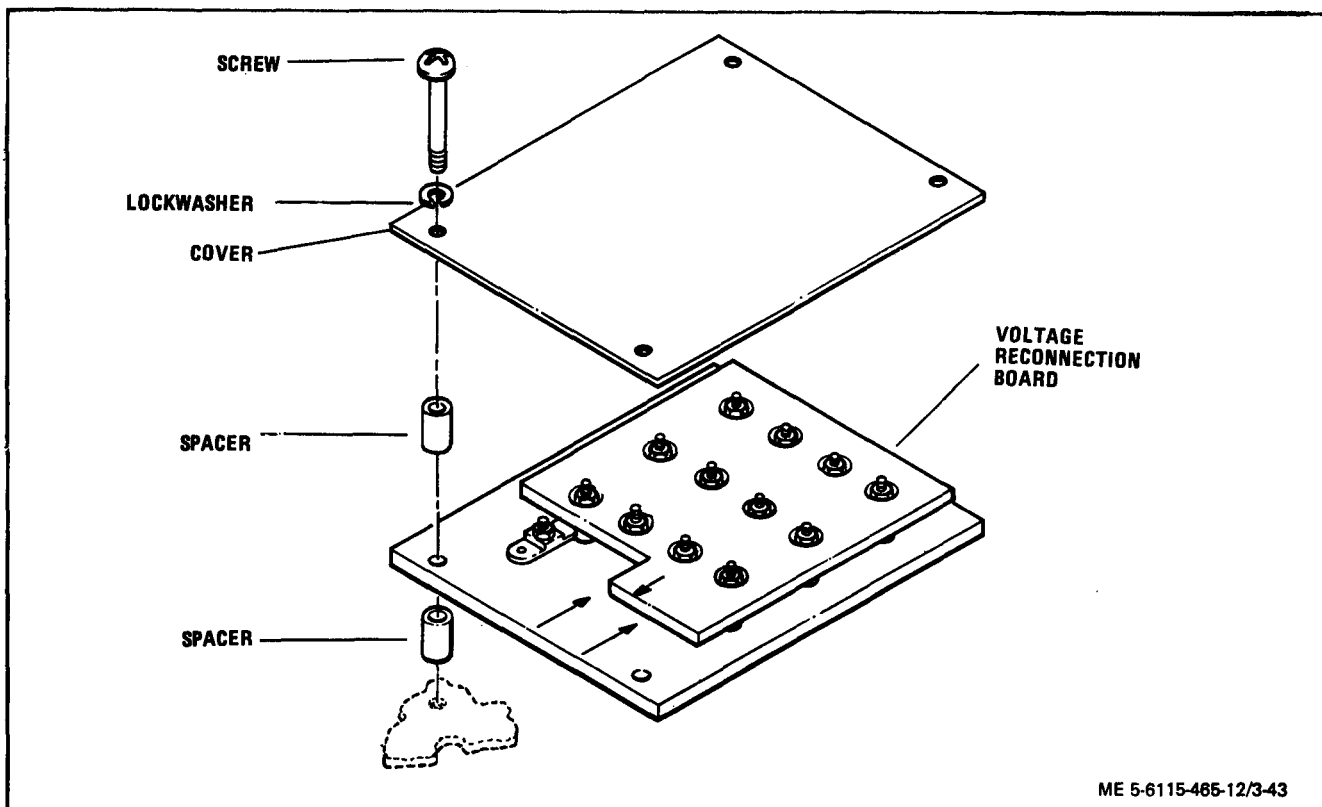

Figure 3-43. Voltage Reconnection Board, Removal and Installation
(1) Remove screws and lockwashers to remove voltage reconnection board and spacers.
(2) Tag and disconnect electrical leads to voltage reconnection board assembly (figure 3-43).
(4) Hold the terminal as shown (Detail A, figure 3-43 B) and bend both ends of the wire straight up keeping the wire in as straight a line as you can with the terminal body.
(6) Bend the ends of each 90° angle down around into a U-shape (Detail C, figure 3-43B) so that if done properly, the clip will hold the nut when it is unscrewed to install the cable (Detail D, figure 3-43 B).